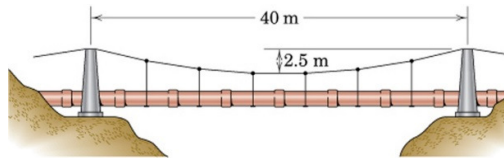

Fig. 7
- Q. No. 7 A horizontal 350-mm-diameter water pipe is supported over a ravine by the cable shown in Fig. 7. The pipe and the water within it have a combined mass of 1400 kg per meter of its length. Calculate the compression C exerted by the cable on each support. The angles made by the cable with the horizontal are the same on both sides of each support.